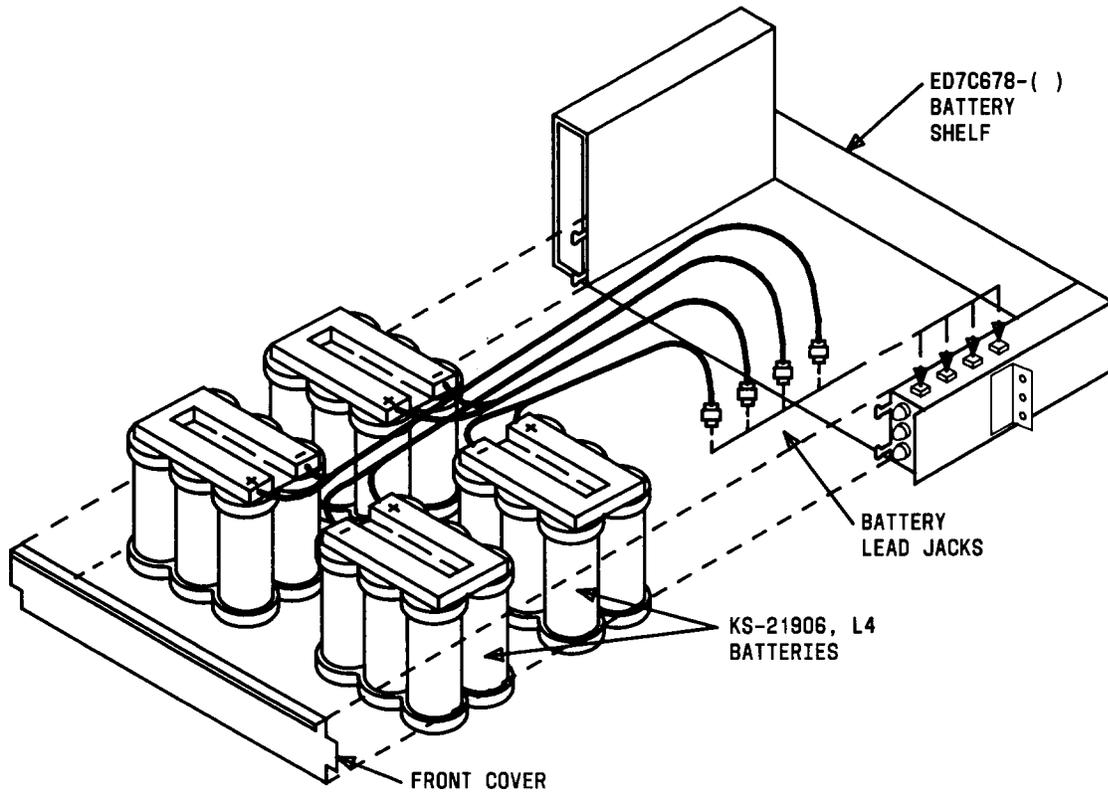

Fig. 2—Battery Placement and Connections
4. Place batteries on battery shelves and dress battery cables as each battery pack is placed on shelf (Figure 2).